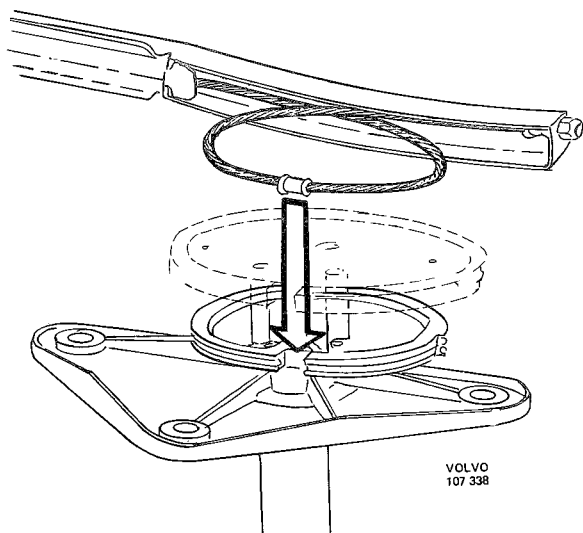

Fig. 3-116. Installing cable for parallel drive link, right-hand side
1. Place the cable's flange nipple in the small segment recess and thereafter prise the cable over the inner segment, see Fig. 3-116. Great care should be observed when doing this work so as not to score the segment or damage it in any other way, as this should lead to disturbance in operation. Tension the cable.